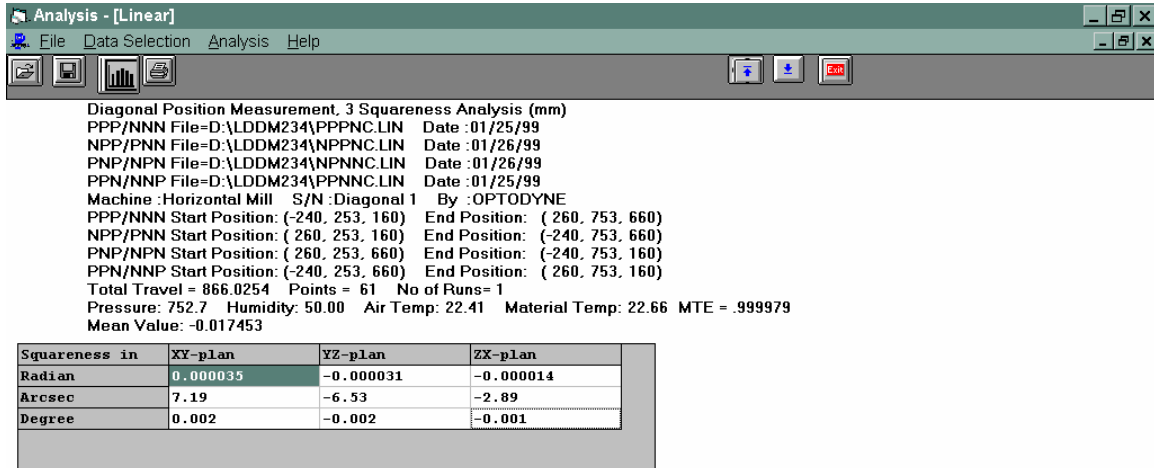

FIG. 9-8 MEASURED SQUARINESS ERRORS
- 5) Click on **Analysis** then **3 Squareness**, the screen will show the 3 squareness errors in the XY-plan, YZ-plan and ZX-plan as shown in FIG. 9-8. Please note the squareness here is positive for less than 90 degree.